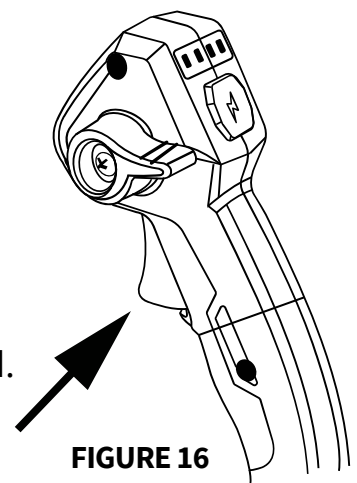

FIGURE 16
7.2.5 Release the trigger to stop the machine. **FIGURE 16.**